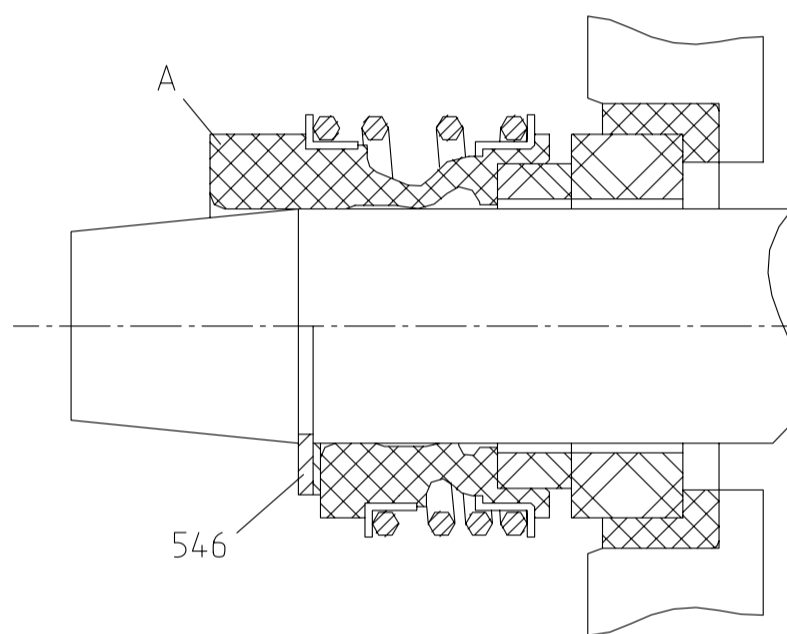

Fig. 17
**c) Rubber-bellows seal - type "G" (Fig. 17)**